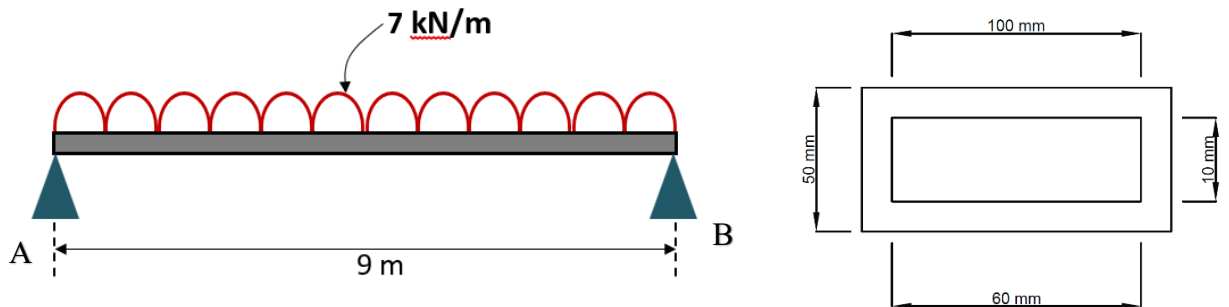

Figure 3(b) / Rajah 3(b)
- (b) A composite beam, 9 m long as depicted in Figure 3(b), is simply supported at both ends *A* and *B*.